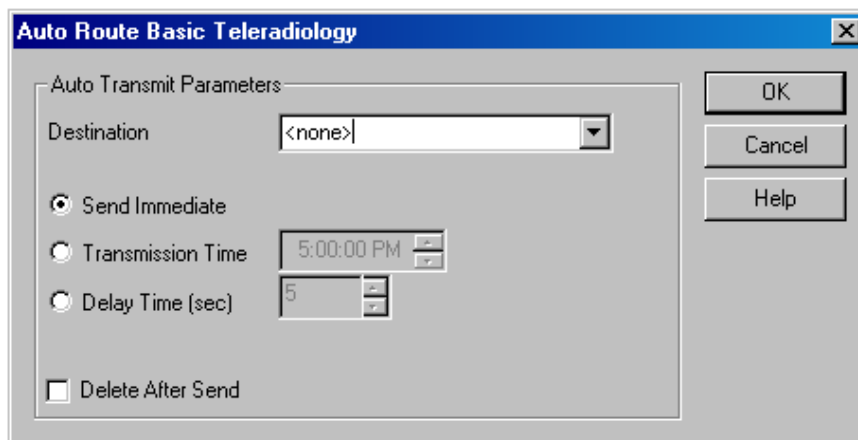

Figure 3-165 Auto Route - turned off
- 2.) In the Auto Route dialog box, click **<basic protocol>** (in the Name column) and then **Modify**. Select **<none>** from the Destination drop-down list in the Auto Route Basic Teleradiology dialog box. Please refer to Figure 3-165 for the basic auto route protocol being turned off.